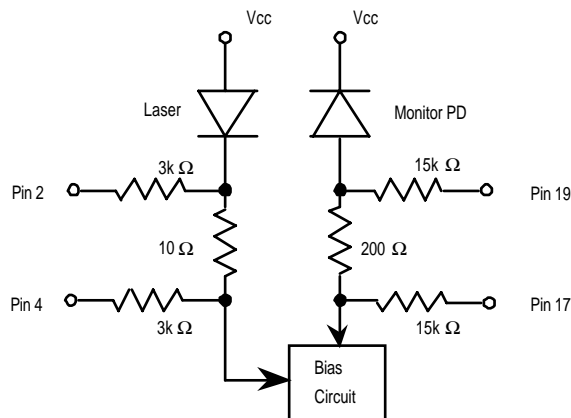

Figure 3 Monitor Circuit Schematic Diagram
7. The Laser Bias and Rear Facet Monitor currents are calculated as ratios of the corresponding voltages to thier current-sensing resistors,  $10\Omega$  and  $200\Omega$ , respectively ( See Figure 3 ). Upon measuring or utilizing these values, use a device whose input impedance is high enough (  $>1M\Omega$  ) compared with those resistors.
3. Please refer to Figure 3 for Pin 2, 4, 17, 19.